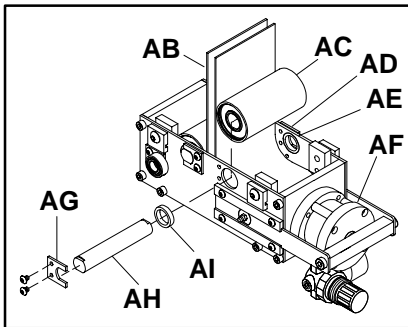
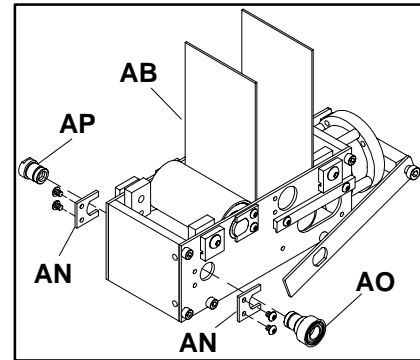

Figure 13
Figure 16
Remove the idler pulley assembly (AC of Figure 13) closest to the tension end (AF) of the center drive module.
Remove the drive pulley assembly by removing the shaft retaining clips (AN of Figure 16) on both sides of the drive pulley.
Re-install the outboard shaft retaining sleeve (AO of Figure 16) and the pulley retaining sleeve (AP) through the side plate and into the pulley.
Press the idler spacer (AI of Figure 13) into the side plate just far enough so that it is flush with the inside of the plate.
Re-install and tighten all shaft retaining clips (AG of Figure 13 and AN of Figure 16) removed or loosened during belt removal.